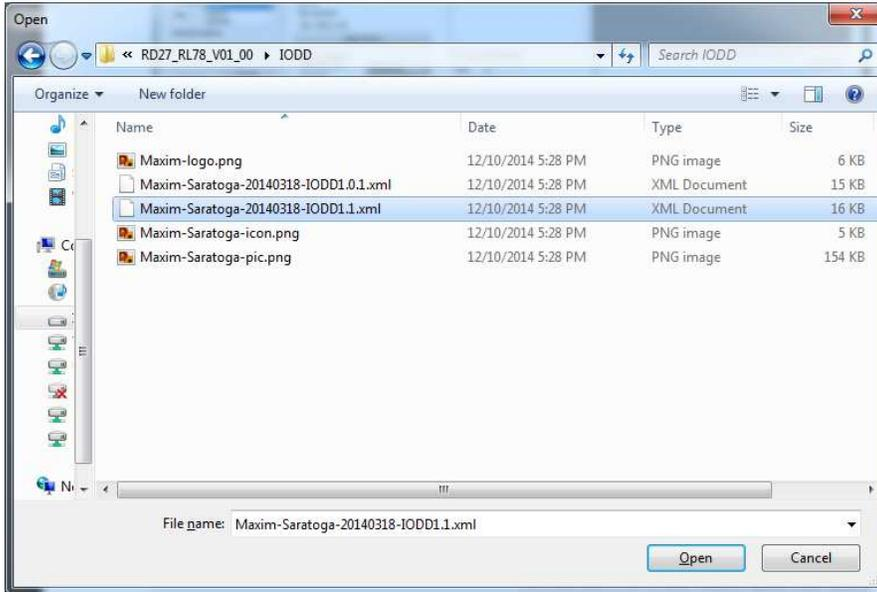
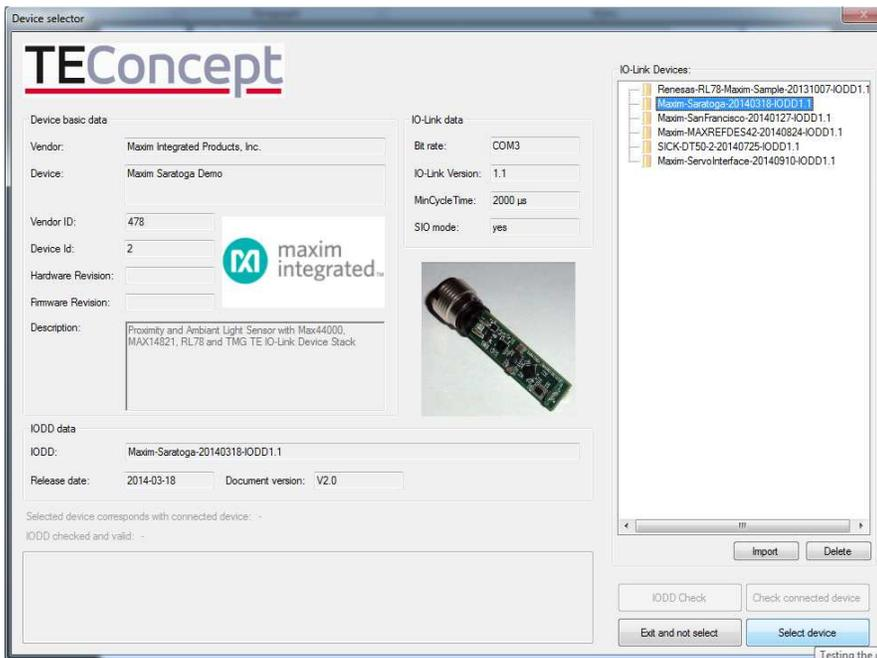

Figure 6. Sensor IODD file (*1.1.xml).
Figure 7. Press the Select device button when imported IODD files are highlighted.
6. Load in the IODD file for your sensor or actuator. In this case, we show the MAXREFDES27# IO-Link proximity sensor (not included). First press the **Select device** button. In the **Device selector** window, press the **Import** button and select the sensor's *1.1.xml IODD file. Highlight the IODD file in the **IO-Link Devices** box and press the **Select device** button. See **Figure 6** and **Figure 7**.
Note: MAXREFDES27# is the part number; this design is also known by the product name 'Maxim-Saratoga' as shown in Figures 6 and 7.